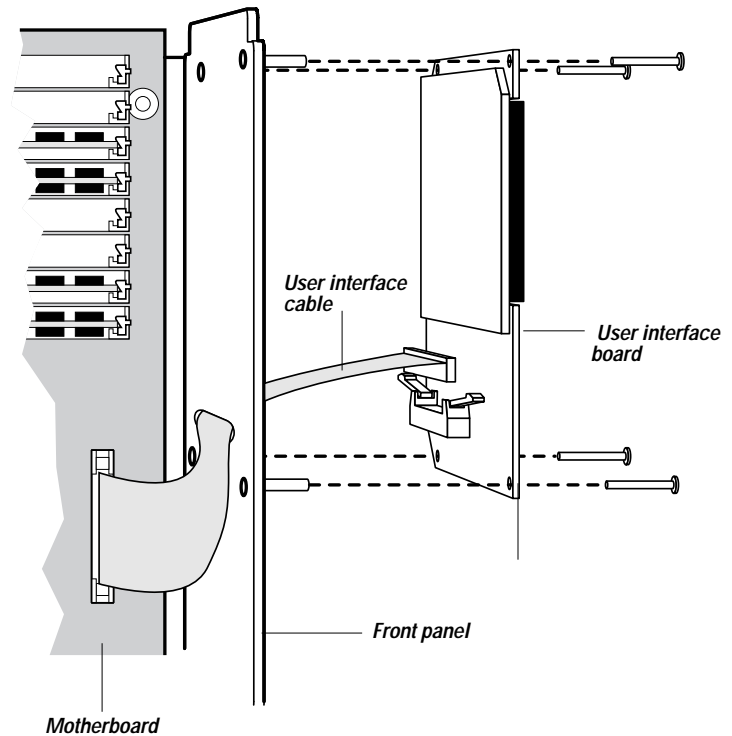

Figure 5-15 User interface board mounting hardware
2. *Remove the four screws that secure the user interface board and the UIB shield to the Fiery XJ BP100 chassis (see Figure 5-15 on page 5-19).*